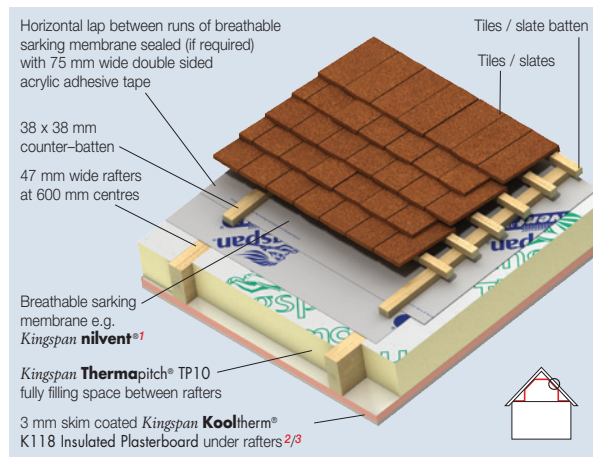

Figure 1a
*NB When calculating U-values to BS EN ISO 6946: 2017 / I.S. EN ISO 6946: 2007, the type of mechanical fixing used may change the thickness of insulation required. The effect of fixings for Kingspan **Kooltherm**® K118 Insulated Plasterboard in the U-value calculations for Figures 1a, 1b, 1c, 1d, 2a, 2b, 4a & 4c is insignificant as the insulation layer penetrated is not the main insulation layer. The U-value calculations for Figures 3a & 3b assume that over rafter layers of insulation are fixed using stainless steel fixings with a cross sectional area 7.90 mm², with 3.7 fasteners per m² (insulant thickness 0–40 mm), 6.2 per m² (insulant thickness 41–60 mm), 8.3 per m² (insulant thickness 61–80 mm) and 10.0 per m² (insulant thickness 81–100 mm). The U-value calculations for Figures 3a & 3b also assume that over rafter layers of insulation are fixed using stainless steel fixings with a cross sectional area 9.1 mm², with 11.1 fasteners per m² (insulant thickness 101–125 mm). Please contact the Kingspan Insulation Technical Service Department (see rear cover) for project calculations.*
- ¹ In Figures 1a & 3a the breathable sarking membrane can be placed over the counter-battens, draped to provide for drainage and overlain with tile / slate battens. This will yield a marginally better U-value but it will be more difficult to seal the breathable sarking membrane effectively.